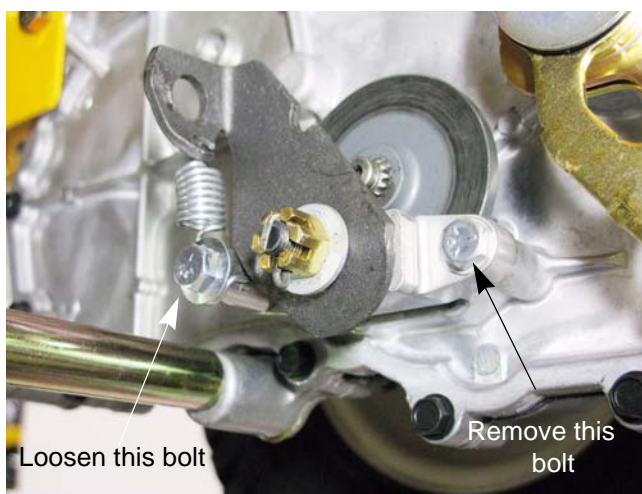

Figure 4.6
5. Loosen the rear mounting bolt. See Figure 4.6.